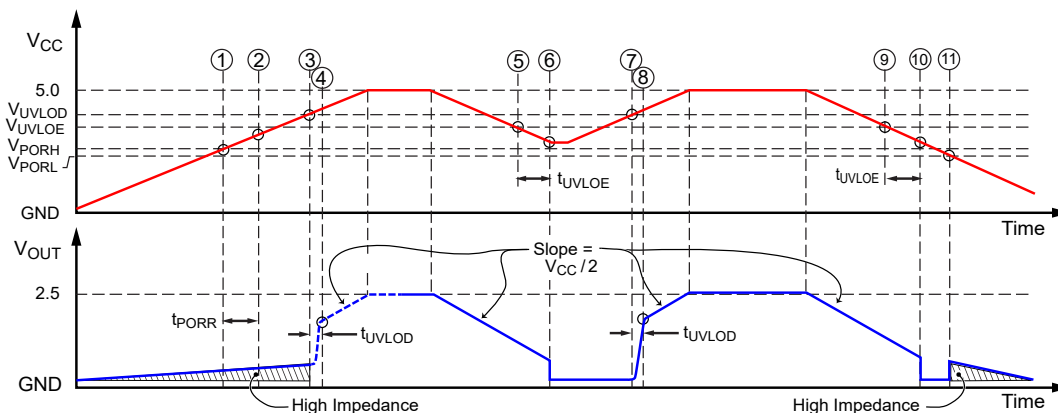
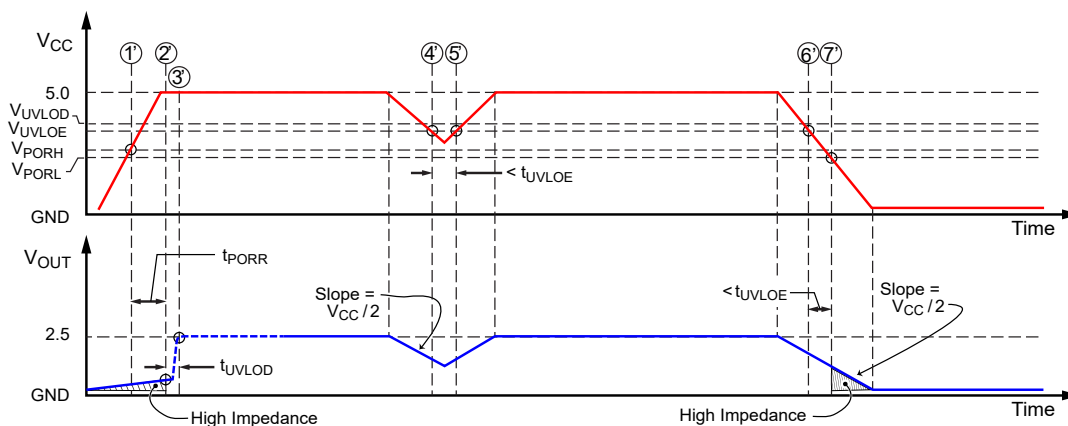

Figure 11: POR and UVLO Operation – Slow Rise Time Case – 5 V Mode
Figure 12: POR and UVLO Operation – Fast Rise Time Case – 5 V Mode
- **Power-Up.** At power-up, as V_{CC} ramps up, the output is in a high-impedance state. When V_{CC} crosses V_{PORH} (location [1] in Figure 11 and [1'] in Figure 12), the POR Release counter starts counting for t_{PORR} . At this point, if V_{CC} exceeds V_{UVLOD} [2'], the output will go to $V_{CC}/2$ after t_{UVLOD} [3']. If V_{CC} does not exceed V_{UVLOD} [2], the output will stay in the high-impedance state until V_{CC} reaches V_{UVLOD} [3] and then will go to $V_{CC}/2$ after t_{UVLOD} [4].